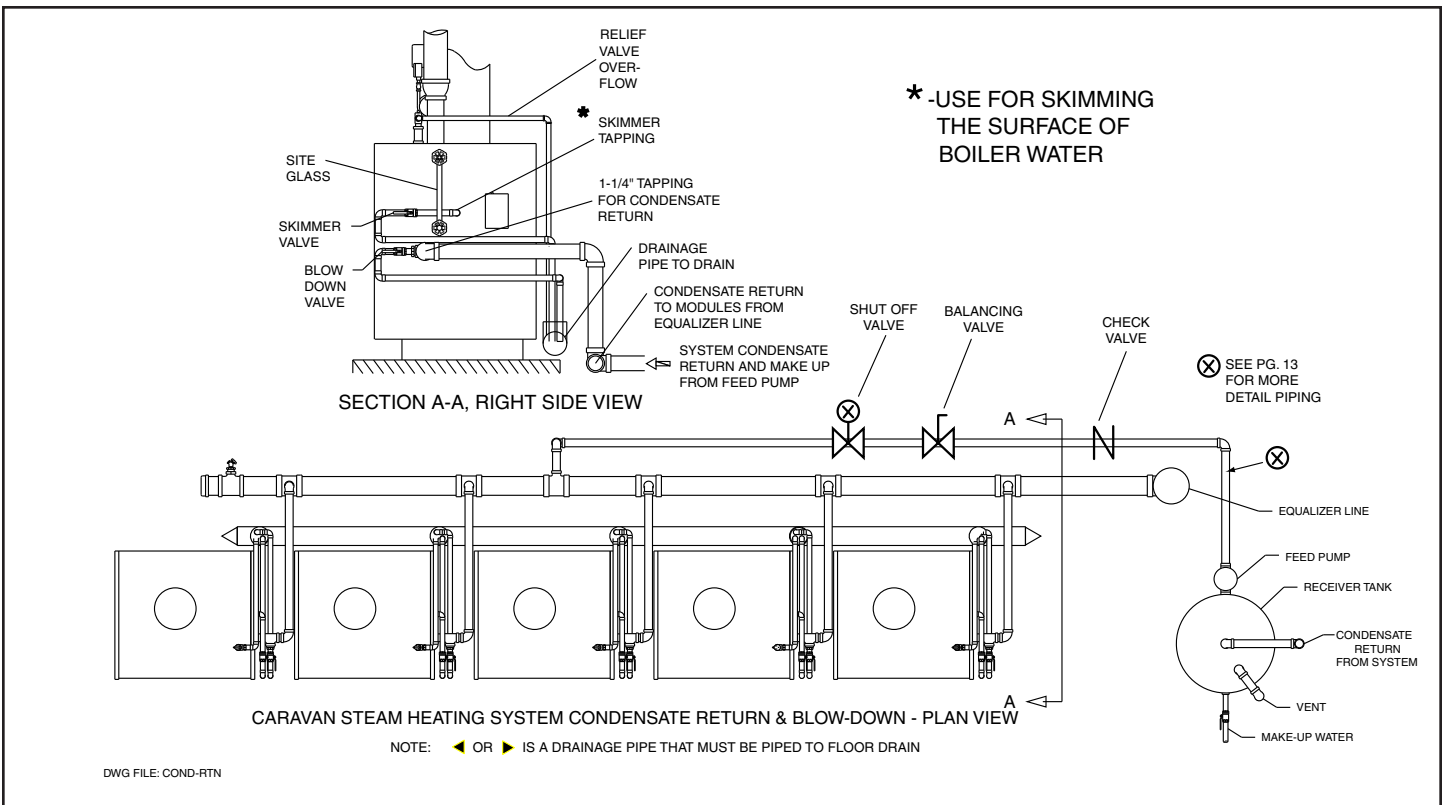
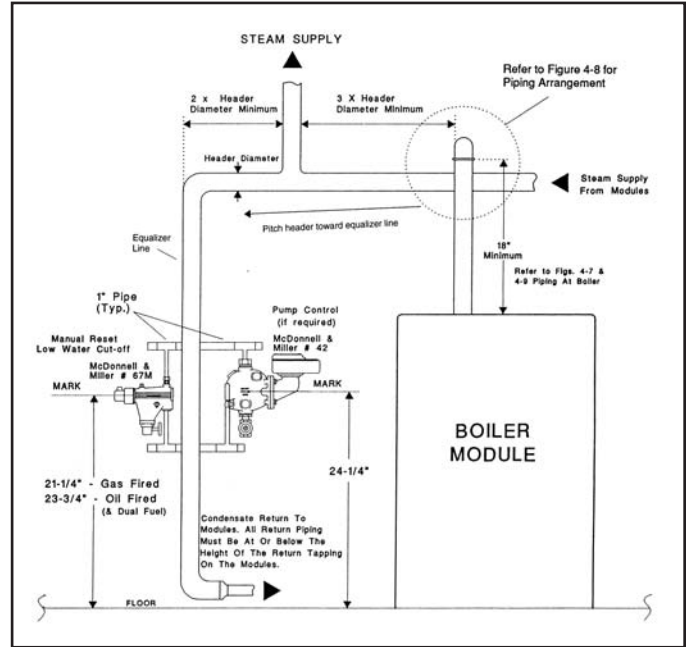
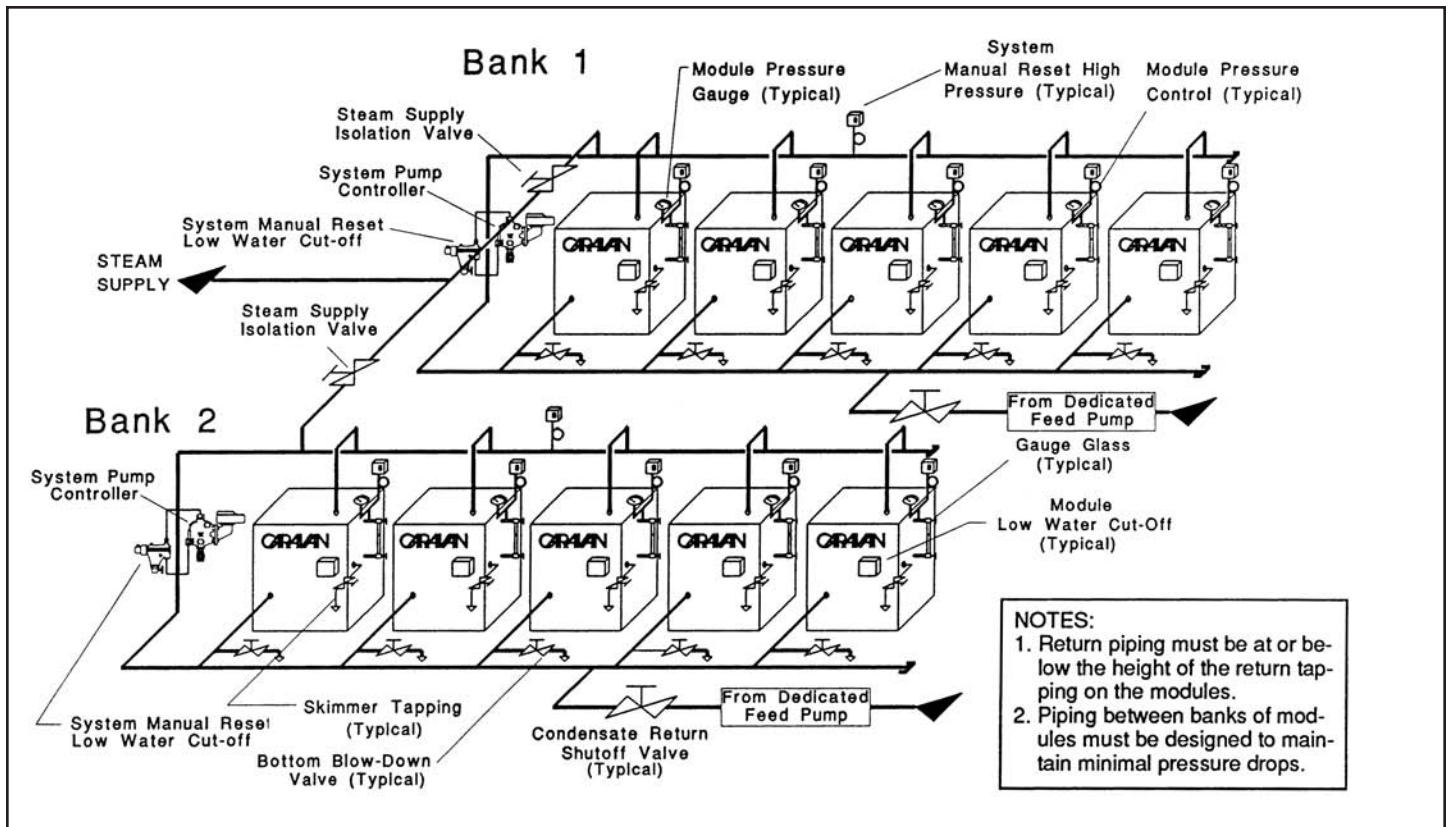

Figure 7: Typical Caravan GXHT-1500 steam return piping, elevation view
Figure 8: Piping details
Figure 11: Steam modules, isolated banks (Note: For detail piping refer to pages 8 & 9)
Modular steam boilers must be piped in a way that provides nearly equal steam pressure at all modules. Supply and return pipes and fittings should be identical on each module. The pressure drop in the supply header, between the connection to the building and the supply tapping on each module must be kept to a minimum. When installed properly, this will result in minimal variance in water levels between modules. Figure 8 shows the take off to the system after the last module and before the equalizer/drain line. Header size shown on this page (Table 8) is based on this
5. All banks of modules must have an equalizer/drain line from the supply header to the return header. This equalizer/drain should be located at the end of the header that the system steam supply is taken from. The equalizer/drain should be the same size as the supply header (see figure 8, page 9). The supply & return header for each bank should be sized according to Table 8, page 9.
7. The supply connection between the building steam main and the module steam header should be located between the last boiler on the header and the equalizer/drain. Connection must be at least 2 header diameters from the last module (see Figure 8, Page 9).
8. Piping should provide a means for both surface and bottom blow-down and flushing sediment from the system for clean, safe and efficient operation (see Figures 11 and 12, Page 11 and Fig. 7 page 8).
The feed pump is activated by a pump control mounted on the equalizer drain line, (see Figure 8, page 9). When the boiler water level drops, the pump control energizes the feed-water pump, transferring feed-water from the receiver to the bank of modules. On systems with more than one bank of boilers that are isolated (valved), each bank must have a dedicated feed-pump with a dedicated power supply, (see Figure 11, page 11). This will prevent the operation of one bank of boilers from interfering with another.